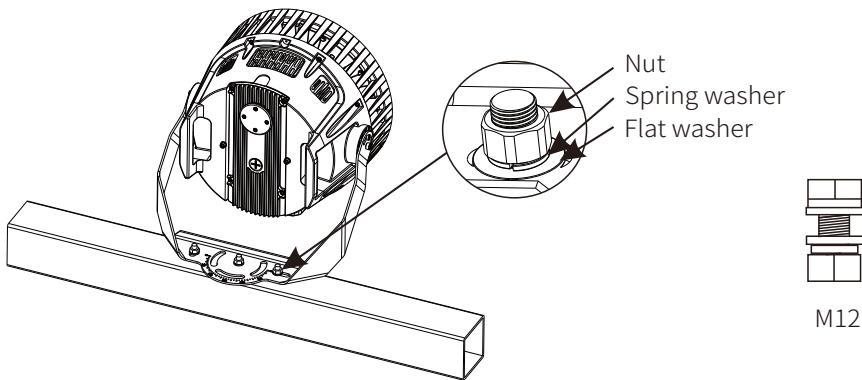

Figure 7
3. Install the luminaire on the crossbar and secure it with nuts, spring washers and flat washers (Figure 7).